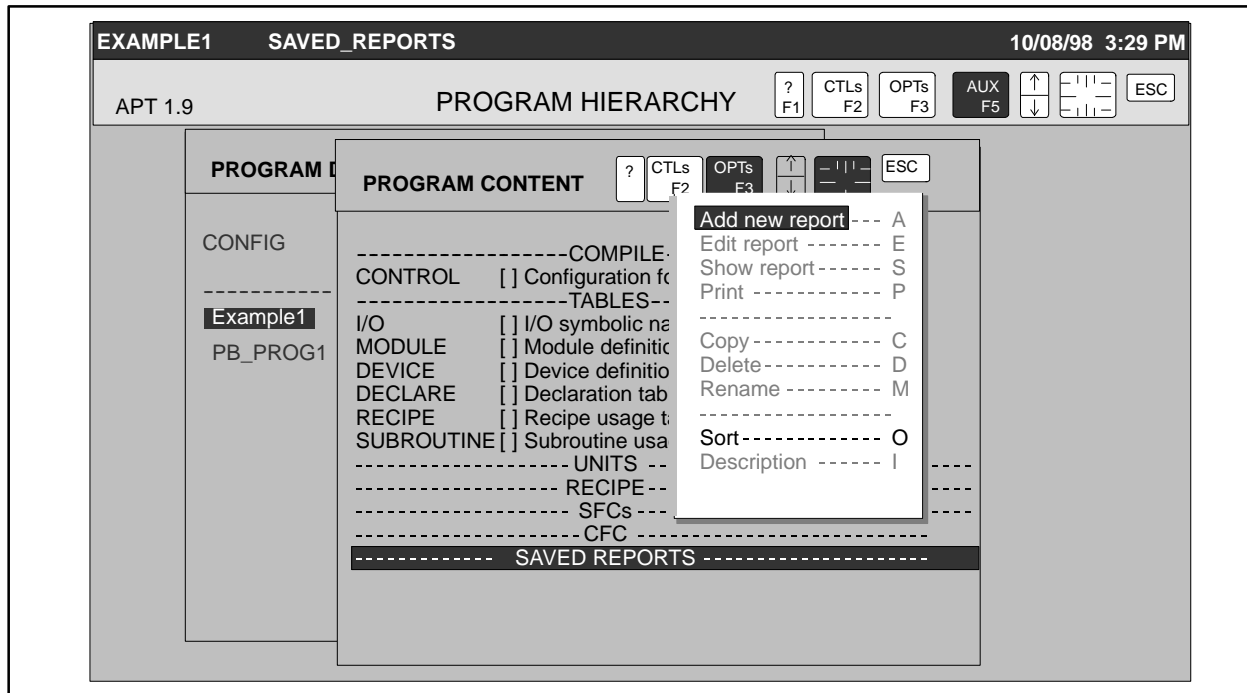

Figure 9-13 Creating the PROFIBUS.CFG Report
2. Select **F3**, and then select **Add New Report** (Figure 9-13).